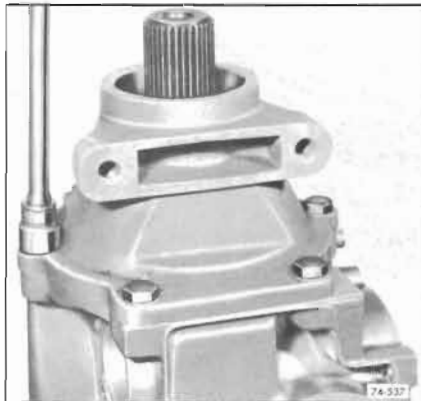

Figure 74-537
2. Remove extension housing to case attaching bolts. See Figure 74-537.